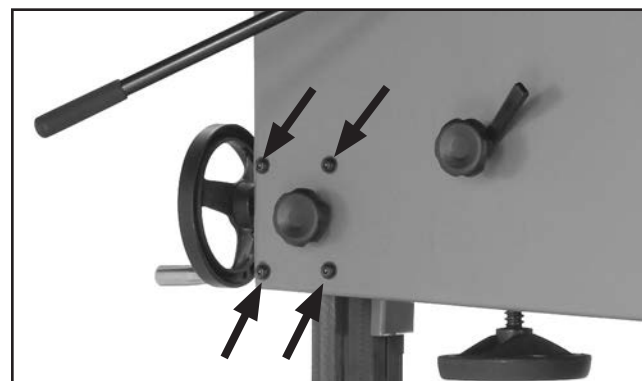
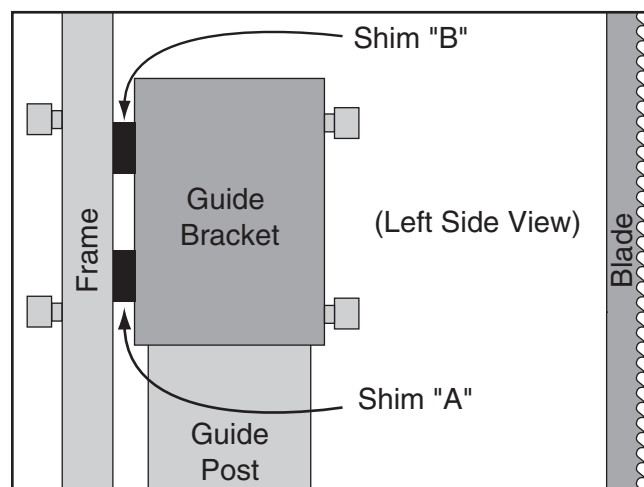

Figure 75. Guide post adjustment screws.
Figure 78. Location for placing shims. (Shim thickness not drawn to scale.)
8. Loosen each of the four screws shown in **Figure 75** ¼ turn.
10. Tighten the screws shown in **Figure 75**, and verify that the guide post stays parallel with the blade along its full path of movement. If necessary, repeat **Steps 8–10** until it is.
9. Loosen the four screws shown in **Figure 75** enough to fit metal shims (wide enough to fit the full width of the guide bracket), between the frame and the guide post bracket (see **Figure 78**).
10. Tighten the four screws shown in **Figure 75**, then repeat **Steps 7–8**.